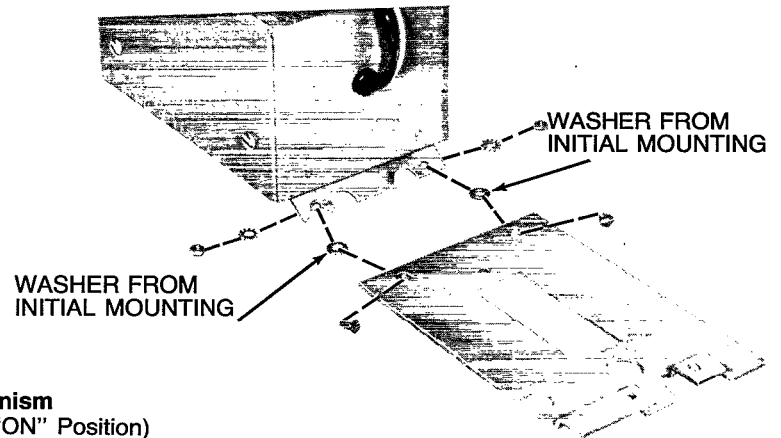

Figure 6
3. Remove the mounting plate attached to the mechanism and replace it with the alternate plate included (Figure 6). Use the two flathead screws, lockwashers, and nuts provided. Tighten securely.